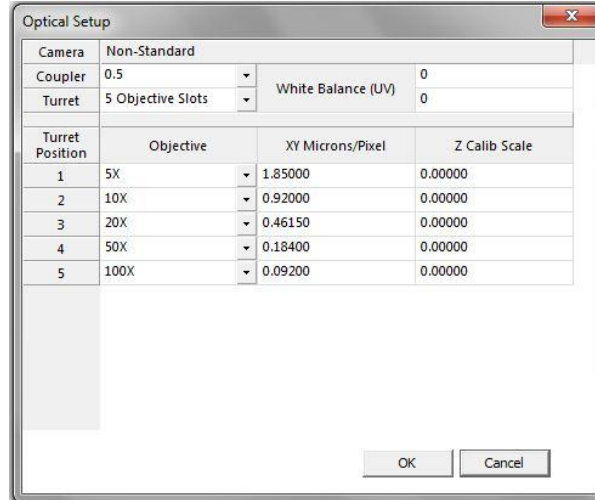

Fig. 9. Optical Setup dialog
1. Press **OK**. The *Optical Setup* popup window shown in Fig. 9 appears. These settings must be correct in order to make accurate measurements.